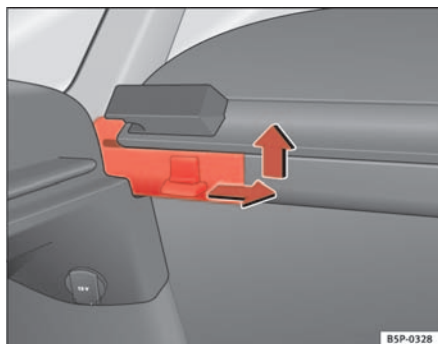

Fig. 121 Removing the stowage compartment tray
- Push the side pin in the direction of the arrow, lift the tray and remove it ⇒ fig. 121.